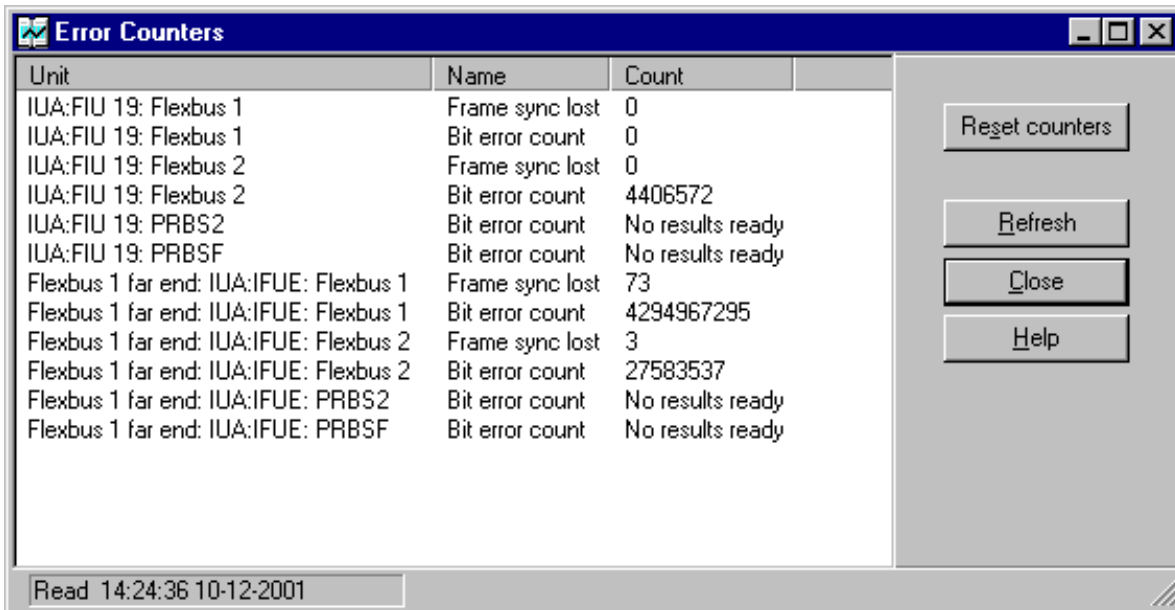

Figure 38. Error counters window
This loopback is used for testing the 4x2M plug-in units or 16x2M expansion unit. This loops back the signal in 2Mbit/s interfaces in a 2M cross-connection block. This loop has to be tested with external BER analyser equipment. Figure 38 shows the signal flow on FIU 19 (E) block diagram level.
This loopback is used for testing both the near-end and far-end equipment. This loops back the signal in the far-end equipment 2M cross-connection block. This loop includes the far-end Flexbus cable interface and a Flexbus framer/cross-connection. Figure 38 shows the signal flow on indoor unit block diagram level.
This loopback is used for testing the near-end and far-end outdoor unit and the Flexbus cable. This loops back the selected Flexbus signal in the Flexbus framer and cross-connection block. This loop includes the far-end Flexbus cable interface. Figure 38 shows the signal flow on indoor unit block diagram level.
Internal pseudo random bit sequence test signal generators/detectors PRBS2 and PRBSF are provided as an additional tool to verify the loop operations. PRBS2 can also be used for testing the operation over the hop. The locations of the insertion or measurement points of these test signals are shown in Figure 38. The loops and the test signals are separate functions and they must be activated or deactivated separately.